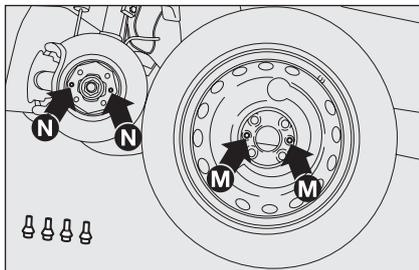

fig. 14
- fit the space saver spare wheel making the holes **M**-fig. 14 coincide with the corresponding centring pins **N**;